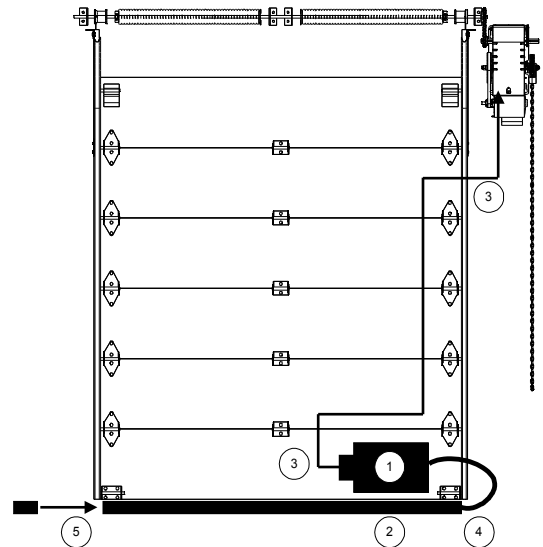

Figure 18 - Reversing Edge
1. Place the air switch in position, refer to Figure 18.
1. Place the junction box in position, refer to Figure 18.